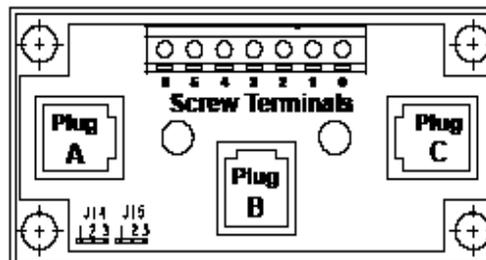

Figure 29. Wiring Connections on Cable Splitter and Signal Booster Module (PN 260735)
- b. Connect cable to plug A of module installed in steps 2a through 2c. Module plugs and terminal screw connections are shown in Figure 29 and identified in Table 12.
- c. On module installed in step 2, connect shield to screw terminal 0. Connect power wires to screw terminals 1 and 2 and communication wires to terminals 3 and 4 (see Figure 29).
- e. On second module, connect shield to screw terminal 0. Connect power wires to terminals 1 and 2 and communication wires to terminals 3 and 4 (see Figure 29), ensuring that power and communication polarity are maintained.
- f. Connect second 6-pin connection cable (PN 260175) in kit to plug A on remote cable splitter/signal booster module (see Figure 29).